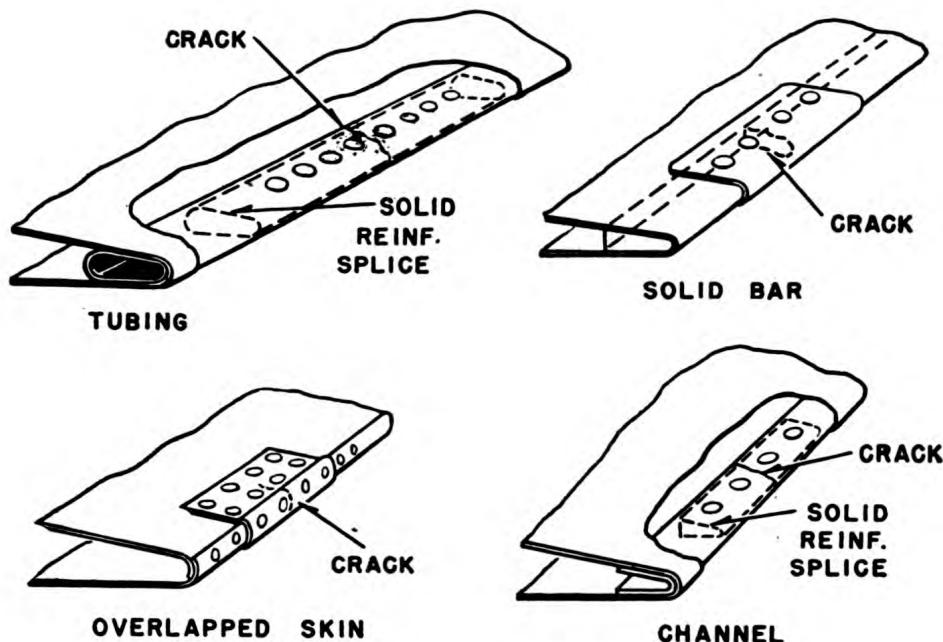

Figure 163.—Repairs of typical trailing edges.
**TUBING** is used in place of a rod for a trailing edge in larger fabric covered control surfaces. This edge probably can best be repaired by inserting a solid reinforcement splice. You would then rivet the original tubing to it. In order to insert the splice, you can either spread the tubing at the break or cut away part of its surface. Figure 163 shows a reinforcement splice inserted in a cracked tubing trailing edge.
A small airplane with correspondingly small wing and control surfaces might employ a **SOLID BAR** like that in figure 163, to give the trailing edge its required stiffness. These bars are used in airfoils which are covered with metal, rather than fabric. You can repair them by simply fastening a reinforcement splice or a patch of sheet stock over the break, as shown in the illustration.